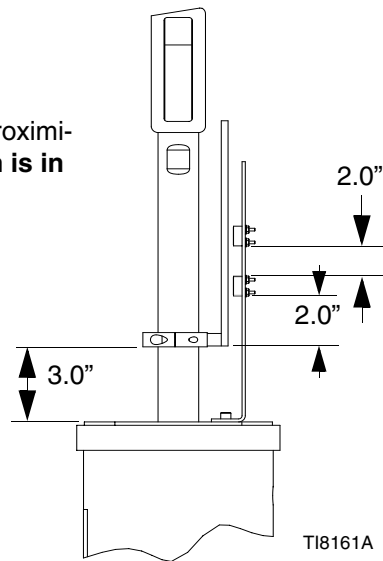

Fig. 29: Optional Low level Kit
The Drum Low and Empty Sensor Kit is used to indicate that a drum is EMPTY or LOW, depending on the adjustment of the proximity switch. The kit contains a sensor mounting bracket (A), activator (B), sensors (C), and a cable for connecting to the Therm-O-Flow 200 control panel. See FIG. 29.